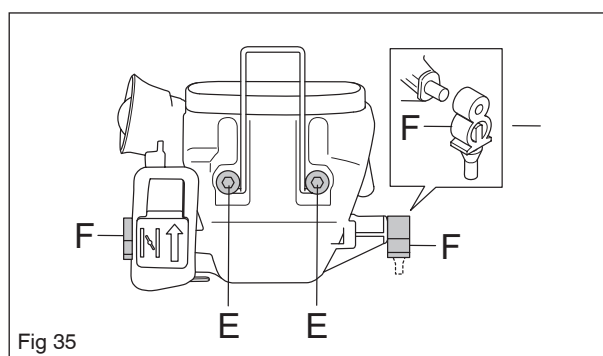

Fig 35
2. Loosen the screws, E Unhook the rubber attachment F on both sides. See Figure 35.